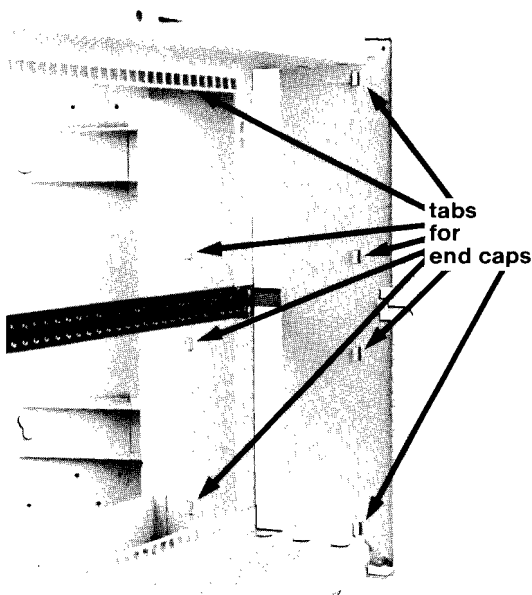

figure 2. Depress plastic tabs to remove end caps
A. After opening the front door of the case, depress the plastic tabs on the right-hand end cap. Carefully pull off the end cap. See figure 2.